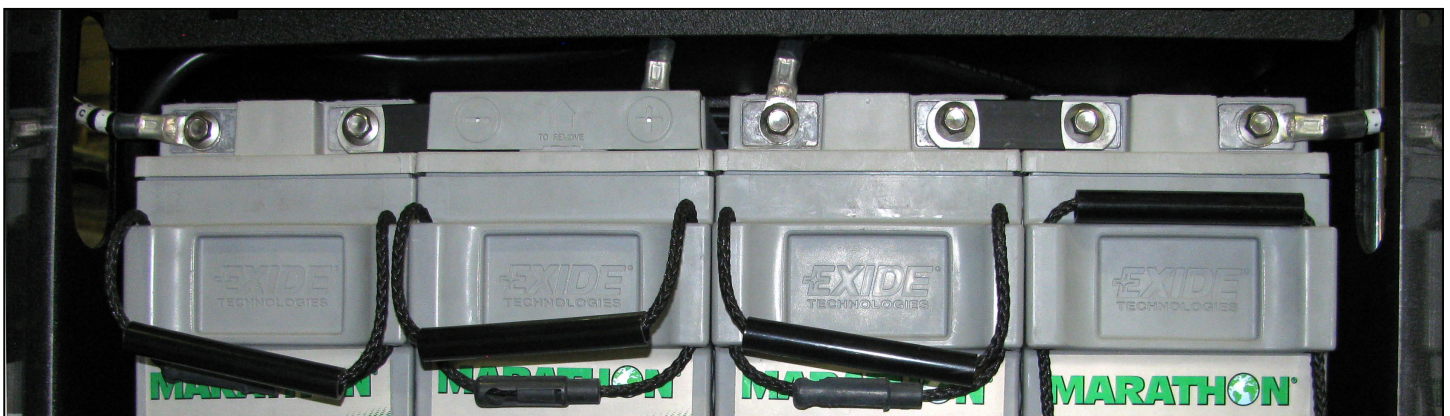

Figure 7 — Example of completed battery wiring (2x 24V strings)
3. Install the inter-unit connectors between the batteries in the string (Figure 7). Torque to the battery manufacturer's specification.